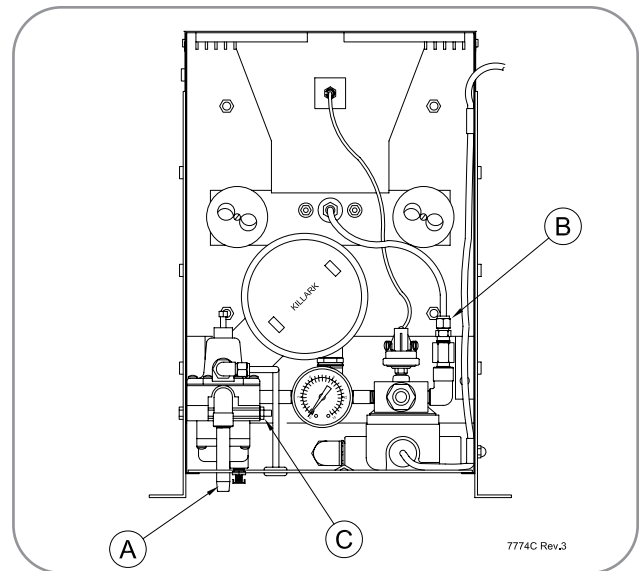

Figure 21 Removing Fuel System
3.9.1 Changing the Fuel Filter (Figure 20, Figure 21)